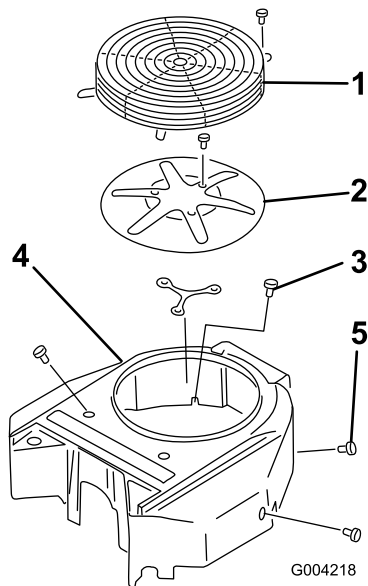

Figure 49
3. Remove the air intake screen, recoil starter and fan housing (Figure 49).
5. Install air intake screen, recoil starter and fan housing (Figure 49).